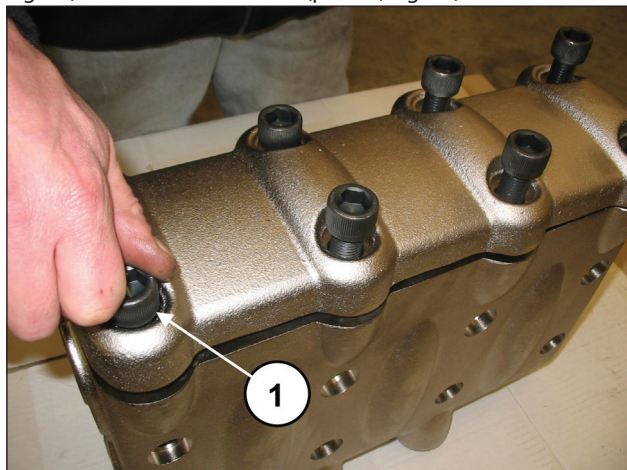
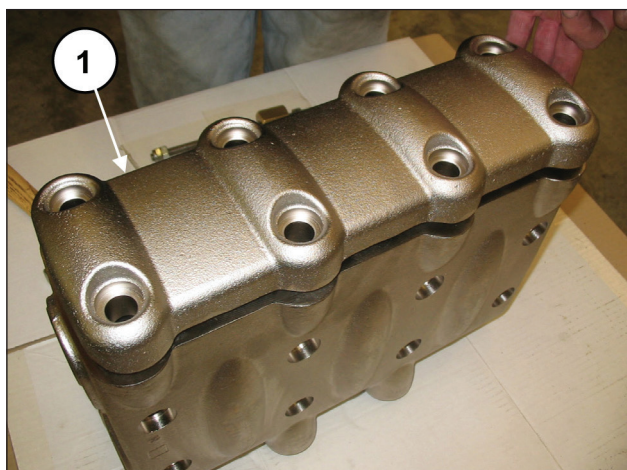

Fig. 88
Fig. 89
Unscrew the 8 M16x55 screws of the valves cover (pos. ①, Fig. 88) and remove the cover (pos. ①, Fig. 89).